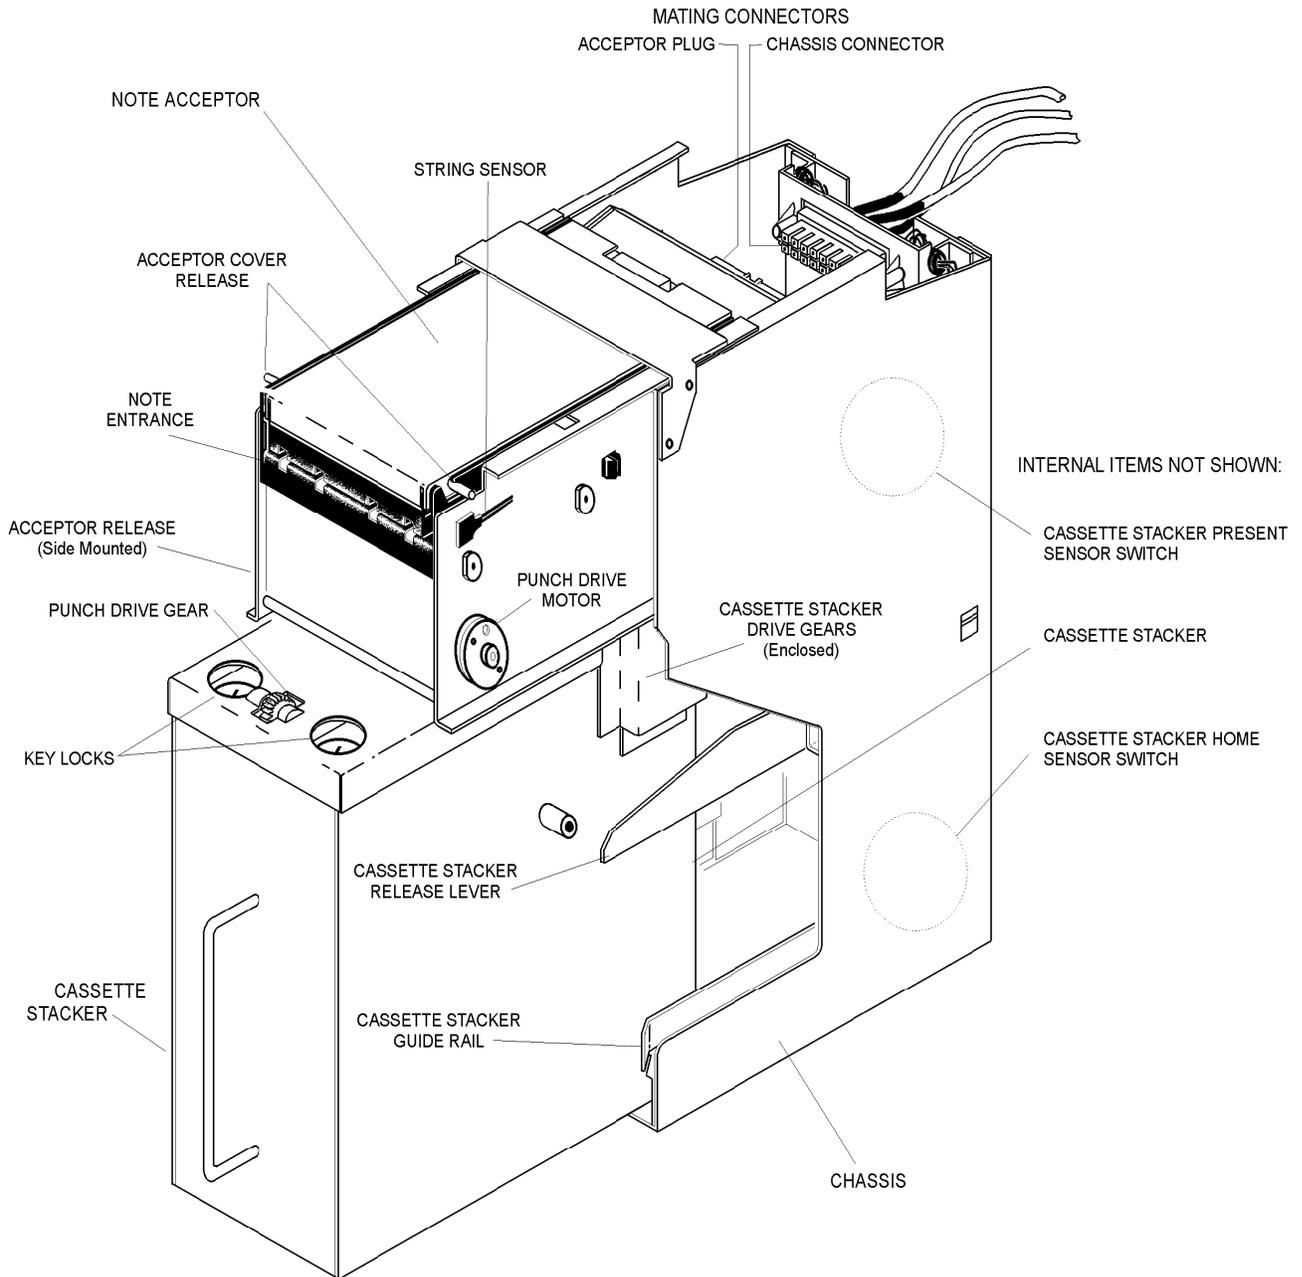

Figure 2-2
1. Position the back of the cassette between the guide rails at the bottom of the chassis. (Fig. 2-2)